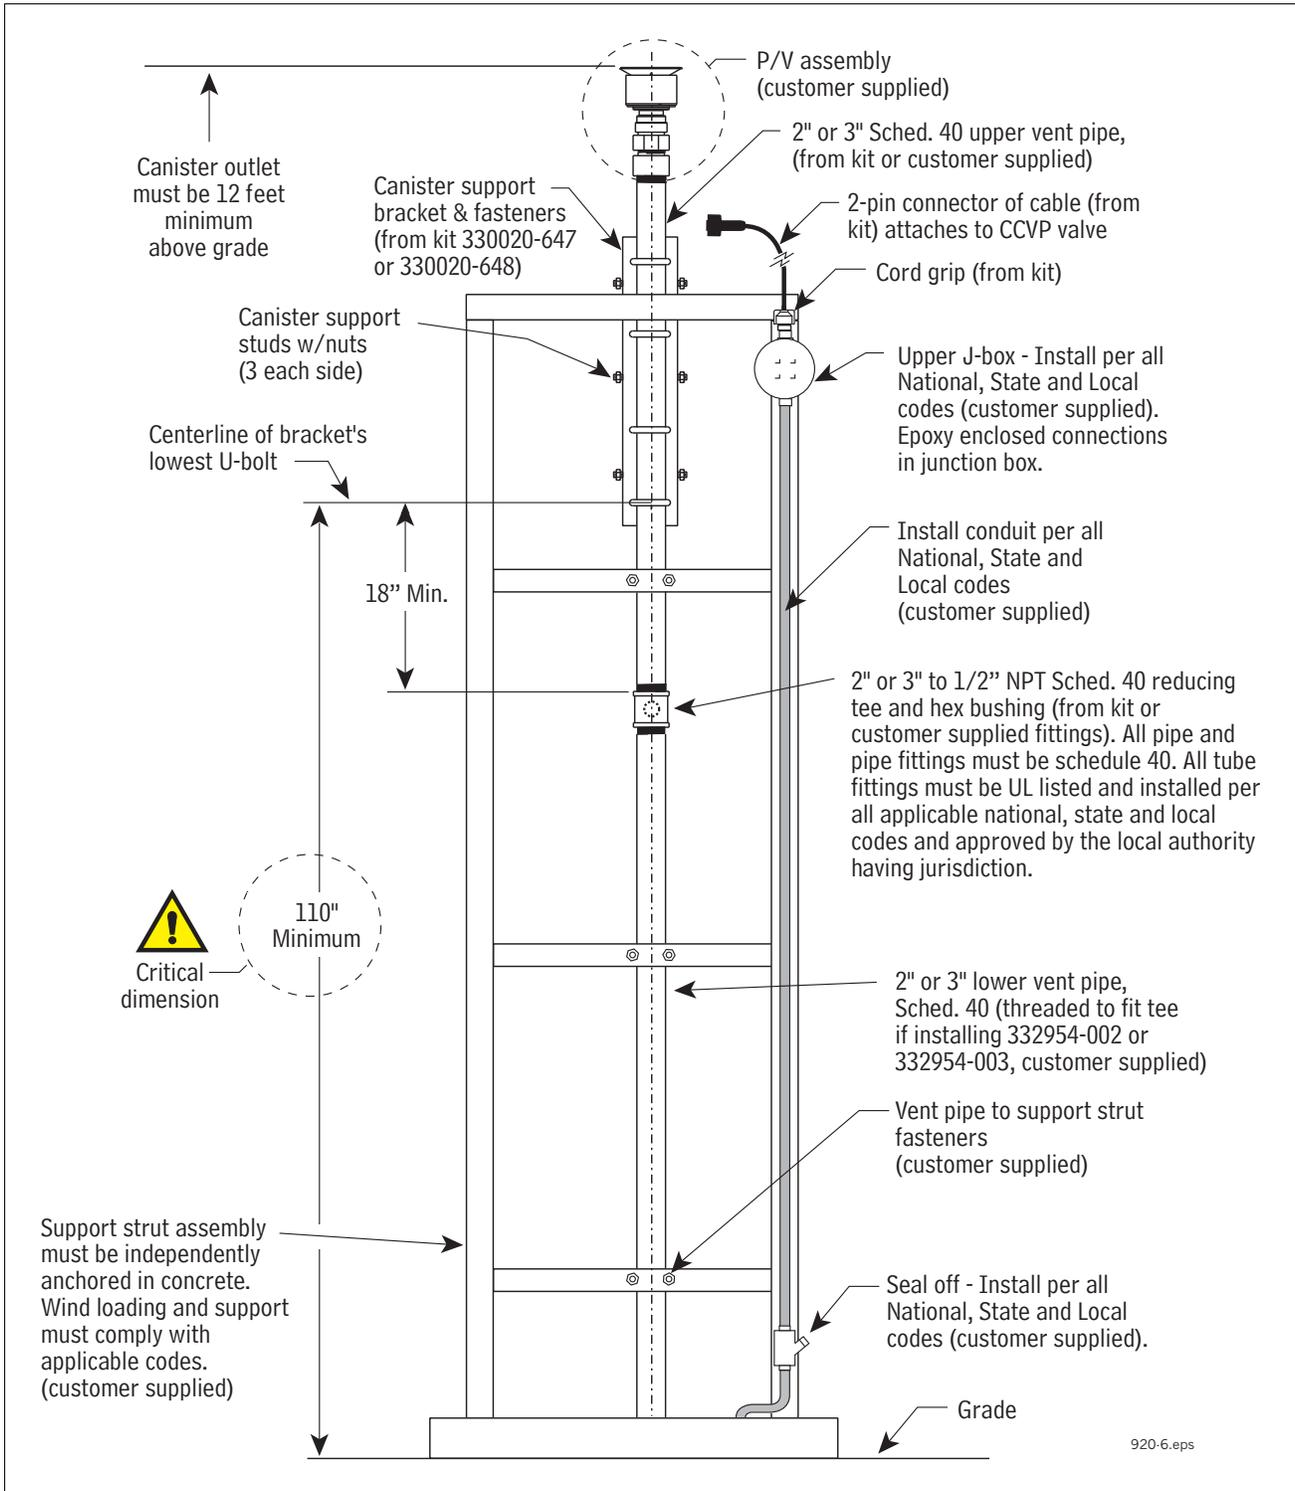

Figure 1. Typical direct wired installation example
6.  **IMPORTANT! To ensure that the canister outlet is 12 feet (minimum) above grade, the CCVP mounting bracket must be positioned according to dimensions shown in Figure 1 and the U-bolts tightly clamped to the support structure before mounting the canister. The mounting bracket must be centered in line with the outlet of the tee before installing the CCVP.**
9. Install weather tight junction box, seal off and conduit per all NEC, state and local codes (see example installation in Figure 1).